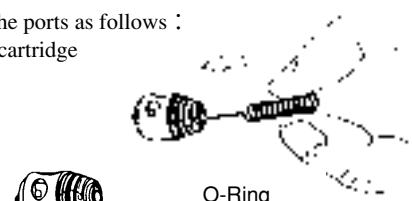

Fig.22
- ① Remove the bur or bur blank from the chuck. Remove the head cap, and the cartridge from the head. As disc ribed in the Replacing Cartridge.
- ② Take out the cleaning wire from the back end of the brush holder. Insert the wire straight into the spray nozzle with caution. Do not forcibly insert the wire into the port. Damaged or disoriented port could cause the spray diverge or directed away from the bur, and the cooling efficiency deteriorates. See Fig.22.